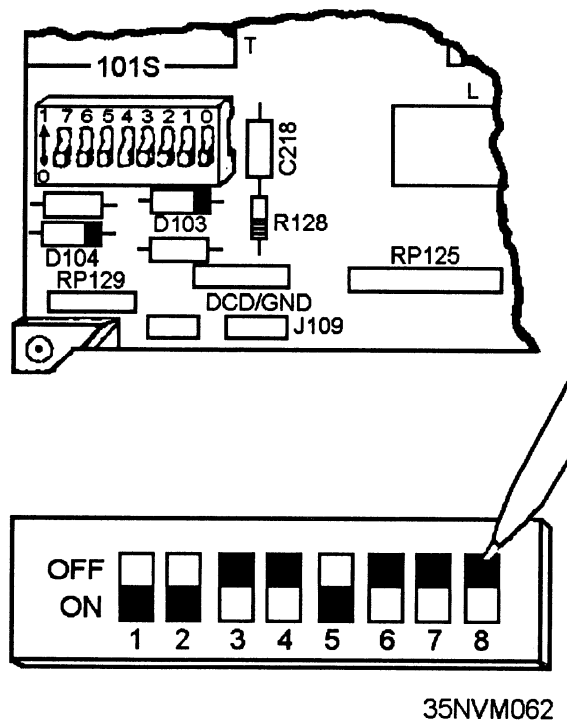

Figure 8-18.—DIP switches.
**DIP Switches.** —Dual-inline package (DIP) switches are made to be installed into integrated circuit sockets or board connections. Each switch in the package (fig. 8-18) normally indicates one of two conditions by its ON/OFF status. The board mounted DIP switches are designed so you can manually position them during component installation, removal, or initial system configuration to inform the processor of the availability of the particular components as well as the requirements of the system operators. They affect such operations as video display (color and resolution) and port(s) selections. Individual switches or combinations of two or three switches are used to specify a variety of configuration options.